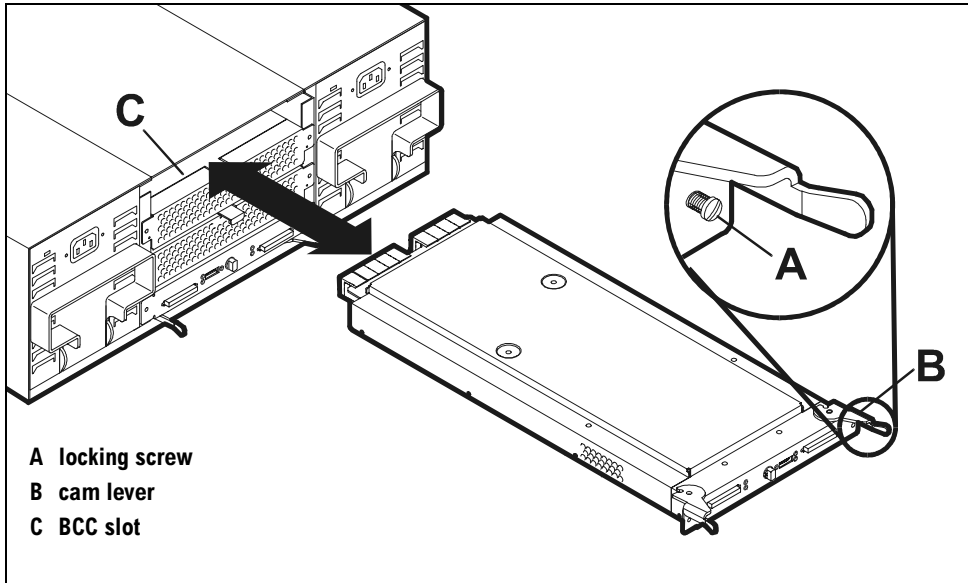

Figure 42 BCC Removal and Replacement
2. Loosen the two locking screws (A in Figure 42) until they clear the disk system chassis. The screws stay in the card.
8. Open the cam levers (see Figure 42) by pulling them away from the center of the card.
12. Tighten the locking screws (B in Figure 42).